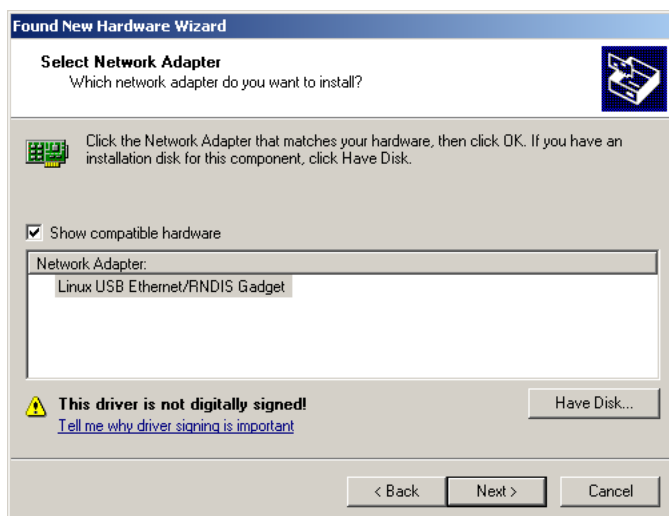

Figure 12. Found New Hardware Wizard – Select Network Adapter Window
9. Click **OK**. The Network Adapter displays in The Found New Hardware Wizard – Select Network Adapter window (see Figure 12).